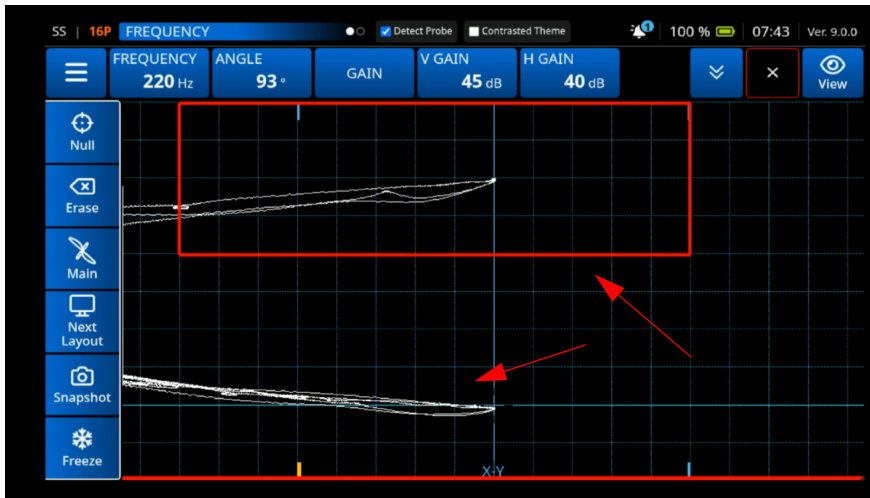

Figure 3-77 Confirm the Settings
1. Place the probe on the pristine fastener and the cracked fastener on the reference standard. Confirm the good setting and the **Alarm 1** detection (See Figure 3-77 on page 100).